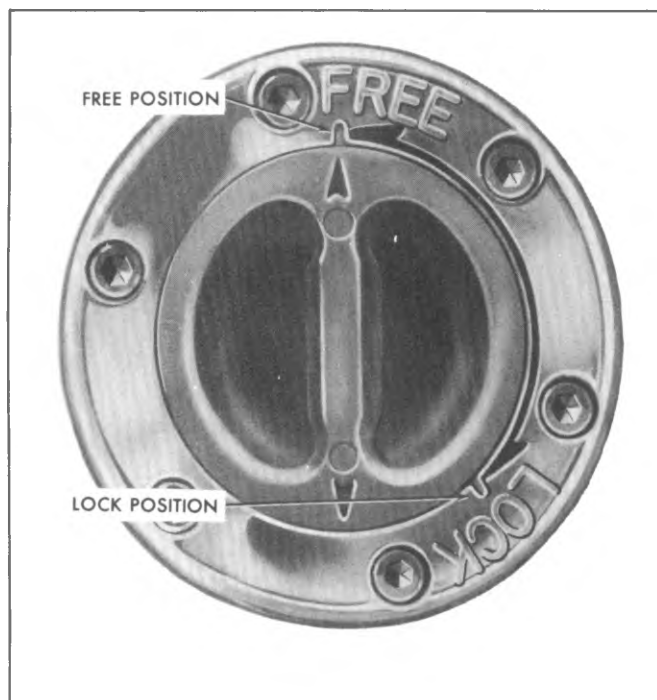

Fig. 3C-5K--Hub Key Position - Typical
1. Turn actuator lever to set hub to "LOCK" position (Fig. 3C-5K) and raise vehicle on hoist.